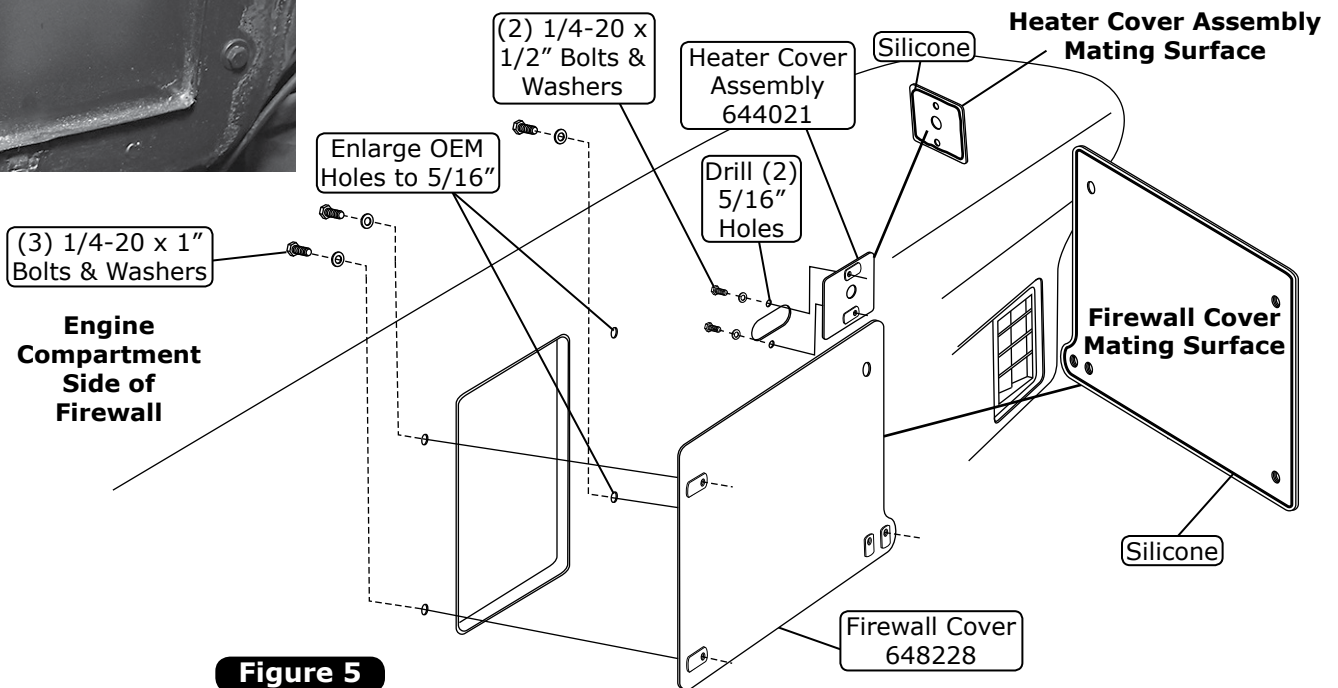

Figure 5
1. Using the heater cover assembly as a template, mark and drill (2) 5/16" holes in the firewall (See Figure 5, Page 12). **NOTE: Be sure to center the heater cover assembly hole with the OEM hole on the firewall before drilling.**
2. Enlarge (2) OEM holes in firewall to 5/16" (See Figure 5, Page 12).
3. Apply a 1/4" bead of silicone around the mating surface of the firewall cover (See Figure 5, Page 12).
4. From the passenger compartment, install the firewall cover onto the firewall. From the engine compartment, secure the firewall cover to the firewall using (3) 1/4-20 x 1" bolts and washers (See Figure 5, Page 12).
5. Apply a 1/4" bead of silicone around the mating surface of the heater cover assembly (See Figure 5, Page 12).
6. From the passenger compartment, install the heater cover assembly onto the firewall (See Figure 5, Page 12). From the engine compartment, secure the heater cover assembly to the firewall using (2) 1/4-20 x 1/2" bolts and washers (See Figure 5, Page 12). **NOTE: For a finished appearance and a watertight seal, Vintage Air recommends applying a smooth bead of automotive seam sealer in the engine compartment to the joints between the heater and firewall covers and the firewall (See Photos 14 & 15, Page 12).**